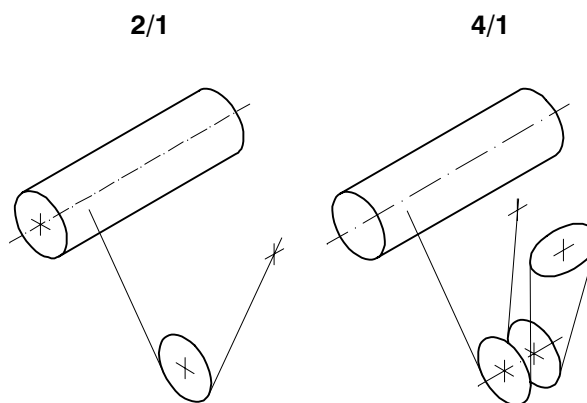

Figure 29
2. Clean the rope drum (10) and evenly spray it with chainlife S spray grease.
3. Push the wire rope (7) from below under the rope clamps (12, 13) so that the rope end protrudes by approx. 3 cm. Tighten the fastening screws according to the prescribed torques. **Pos. (9) at pictures chapter 3.3.5.**
4. Tautly wind the rope around the drum (10) by approx. 6–8 turns; make sure that the rope is twist-free.
5. Conduct the straining ring (16) over the drum and suspend the tension spring (17) in such a way that the straining ring firmly encloses the rope turns. The straining ring frame points towards the hoist gear.
7. Spread the rope guide ring (11) and lead it over the drum so that its threaded segments engage in the grooves of the rope drum and that the groove engages over the frame of the straining ring.
8. Pull the ending rope line through the guide aperture of the rope guide ring and fasten the joining tie (15).
9. Twist the rope guide until the guide edge engages in the slit of the catch (18) at the drum casing. Then fasten the catch on the rope guide ring. (11, 18, and 19)
10. Reeve the free rope end without twisting and fasten it in the rope sockets (2 and 5–9) of the fixed point tie-bar (3). **For reeving, see Figure 29.**